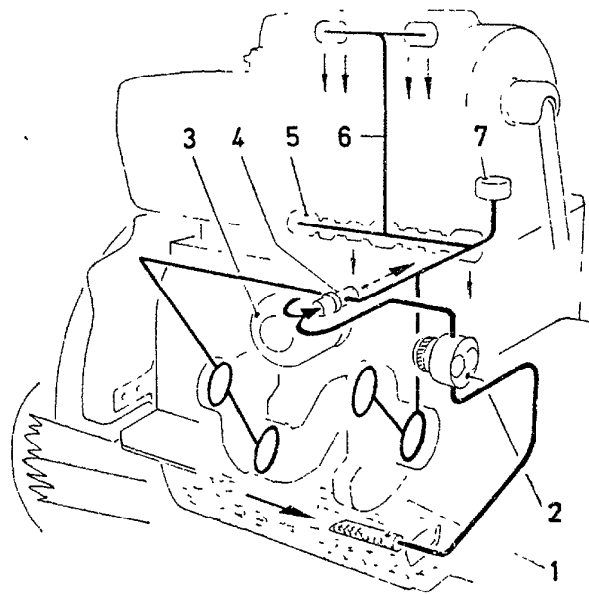

Fig. 12
The oil pressure is limited by the oil pressure relief valve (4) fitted behind the oil filter (see Figs 12 and 18). The oil pressure is indicated on the pressure gauge (7).